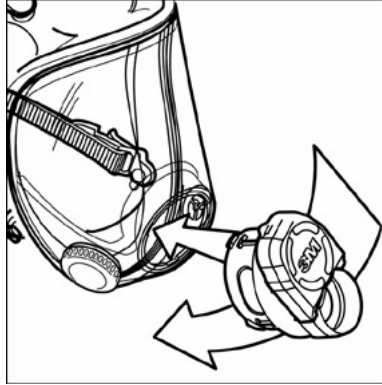

Fig. 17
3. Slide adapter into lens port. (Fig. 17)